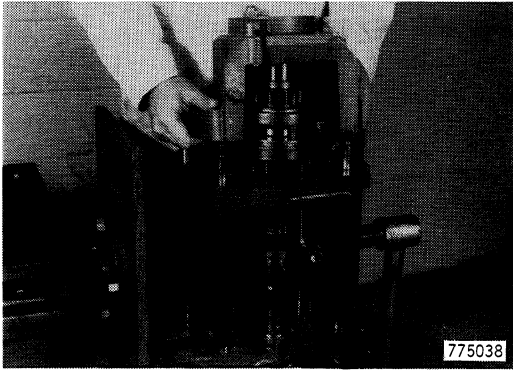

Figure 313
15. Place shuttle housing in position, being sure that all gear teeth are in alignment, Figure 313.